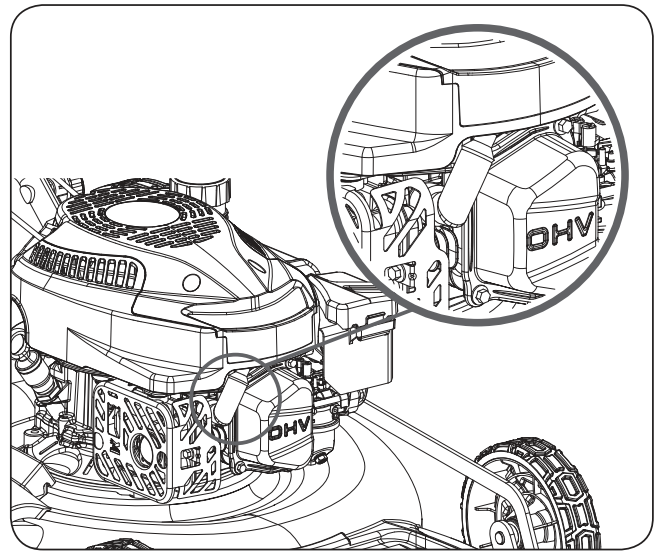

Figure 15
1. Disconnect spark plug wire from spark plug and place wire where it cannot come in contact with plug. (See **Figure 15**)